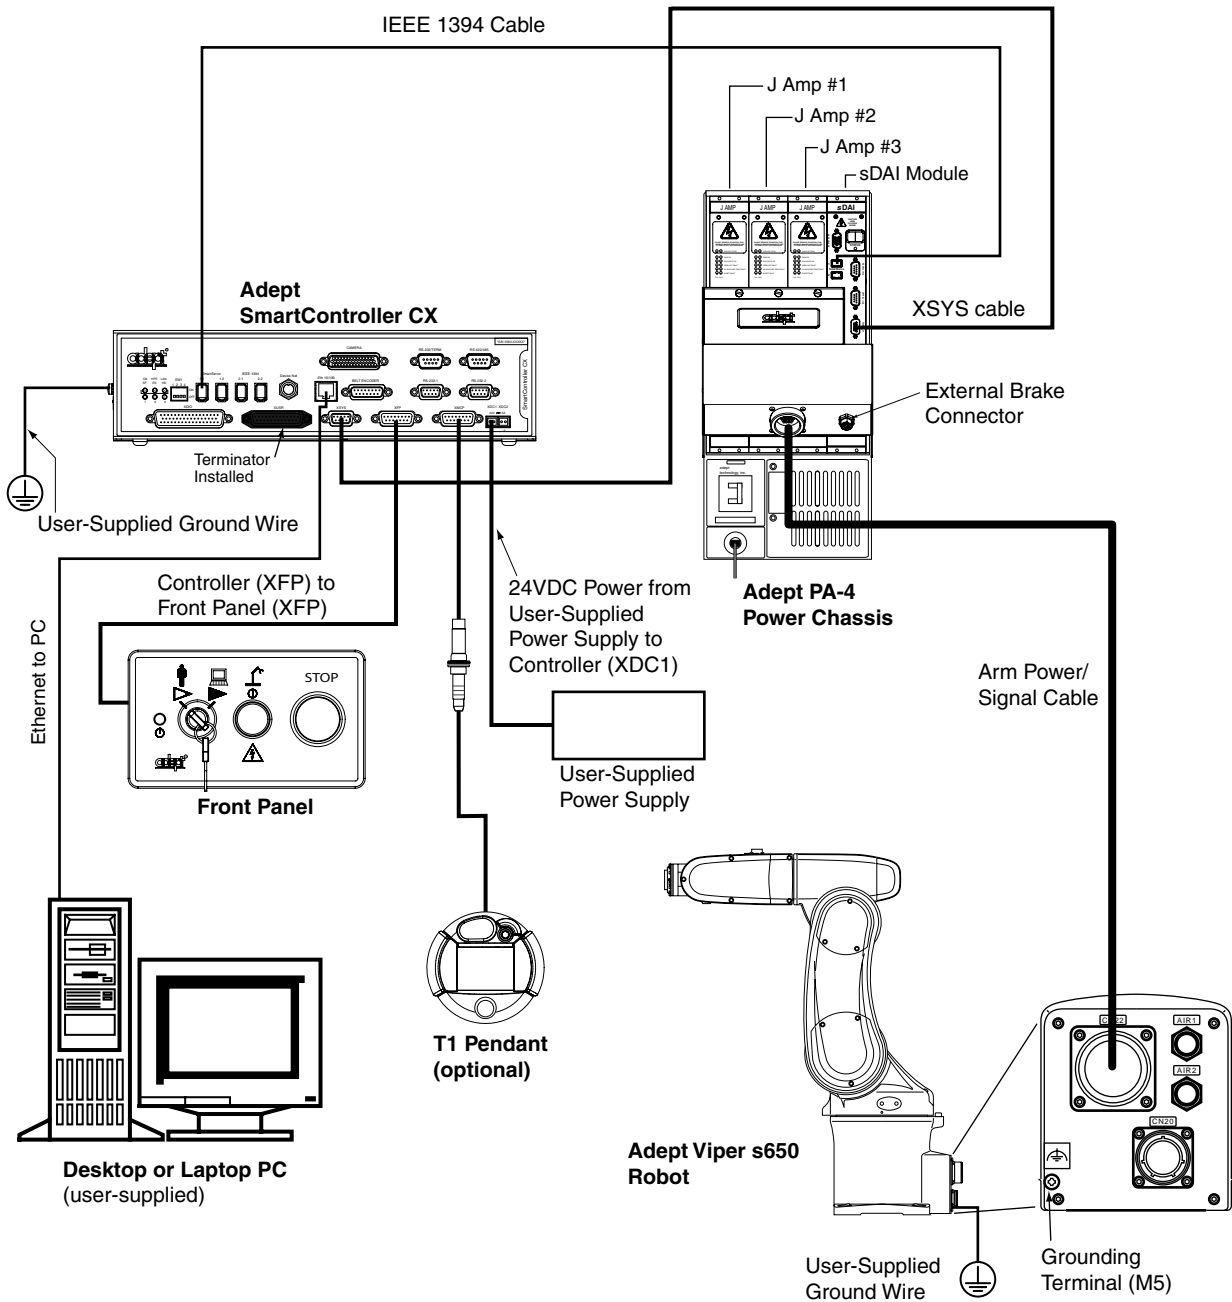
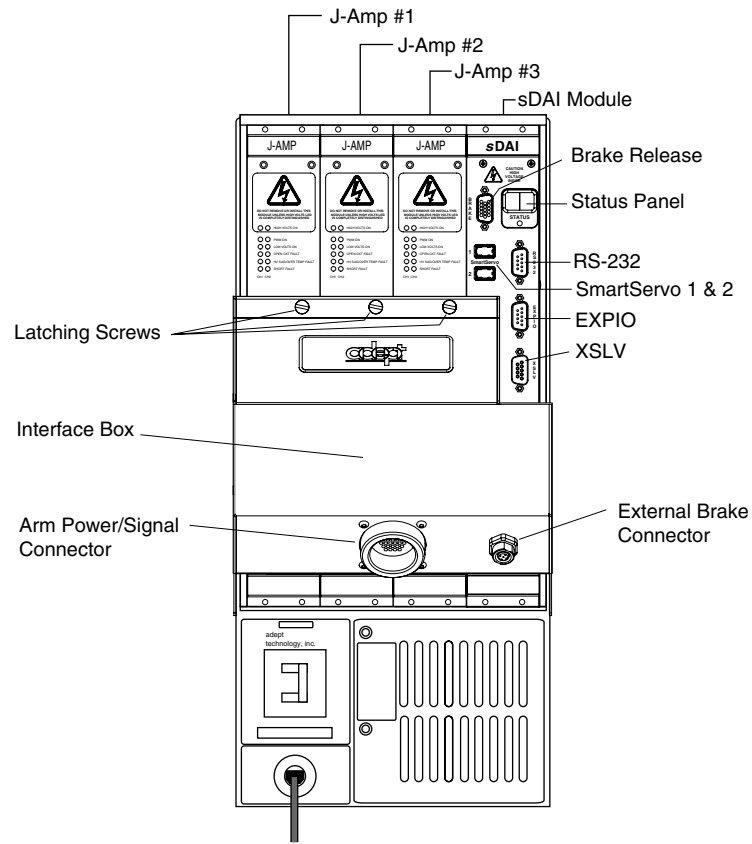

Figure 4-1. System Cable Diagram for Adept Viper s650 Robot
Figure 4-2. Adept PA-4 Power Chassis with sDAI Module
3. Install one end of the IEEE 1394 cable into the SmartServo port 1.1 connector on the SmartController, and install the other end into the SmartServo port 1 connector on the sDAI module in the PA-4. See **Figure 4-1 on page 43** and **Figure 4-2 on page 45**.